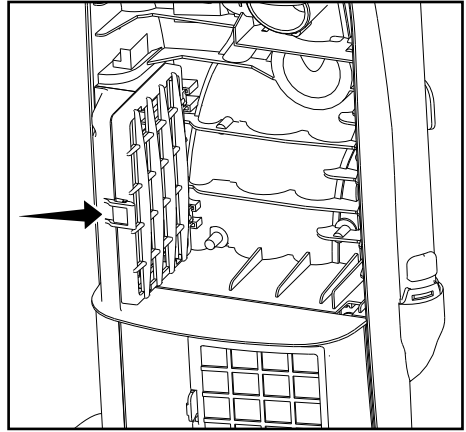

Fig. 1
- Press the handle release pedal with your foot, and tilt the handle back until it stops. Press the pedal again to lower the handle to the floor (Fig. 1).